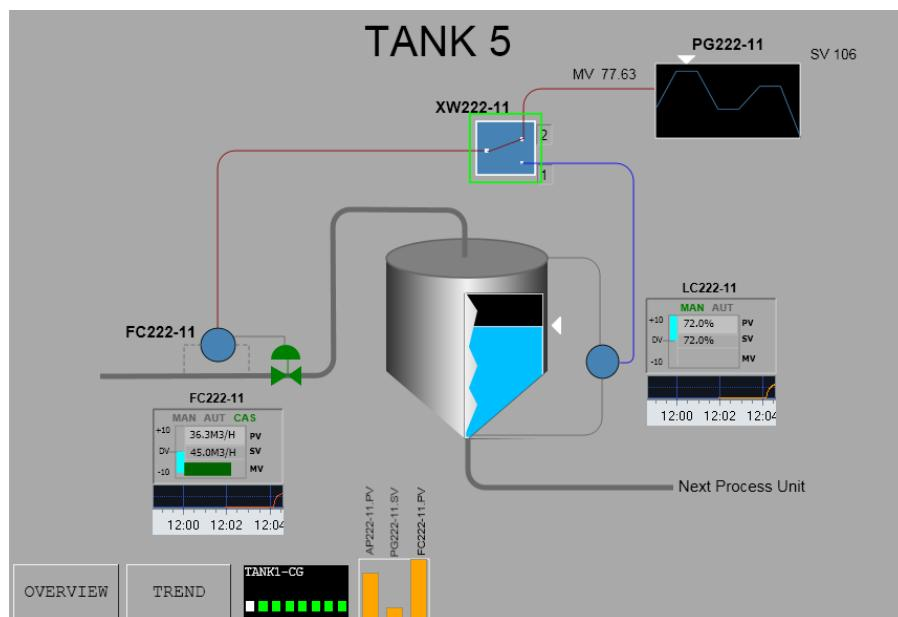

Figure 7.1 (Graphics to be created in this exercise)
- 5.2. Size and place it to approximately what is shown in Figure 7.1. It doesn’t have to be exact, this is your version of a graphic and it can be adjusted later.
- 8.5. Close the properties window and move the text as shown in Figure 7.1.
- 8.6. Create some more text for “XW222-11”, “FC222-11”, and “PG222-11”; define the properties as foreground color of **black** and **Arial 18 Bold** font. Place them as shown in figure 7.1.
- 8.7. Create the additional texts “1” and “2”; define their properties as foreground color of **black** and **Arial 16 Bold** font. Place them as shown in figure 7.1.